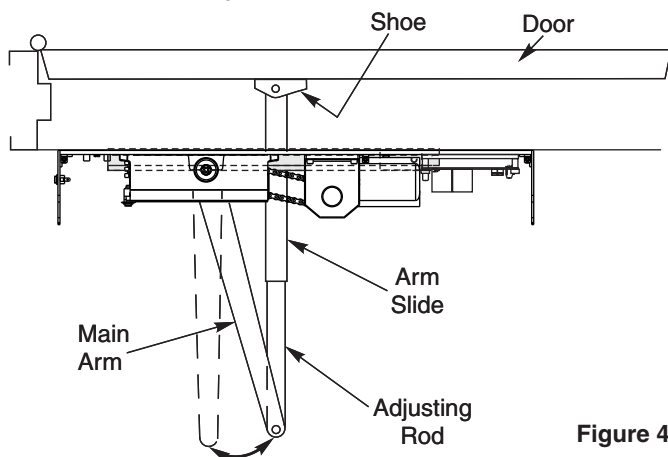

Figure 4
Step 8: PRELOAD ARM (See Fig. 4, below): Remove 1/4-20 hex head screw on adjusting rod and insert adjusting rod into arm slide. Reinstall 1/4-20 screw and leave loose. Rotate main arm in direction away from the hinge edge until the adjusting rod and arm slide are perpendicular (at a 90° angle) to the door frame. Tighten the 1/4-20 hex head screw on the adjusting rod to secure arm in this new position.